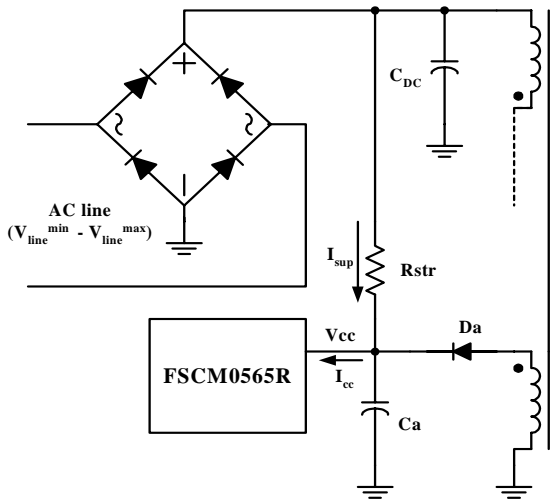
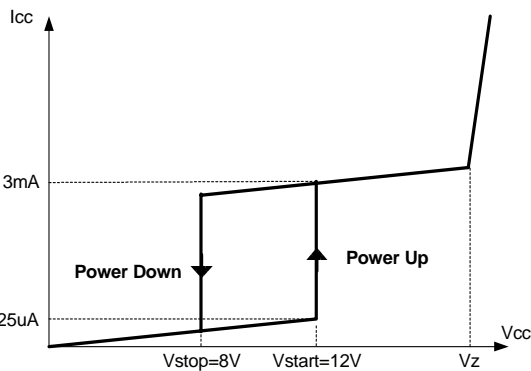

Figure 4. Startup circuit
Figure 5. Relation between operating supply current and Vcc voltage
1. Startup : Figure 4 shows the typical startup circuit and transformer auxiliary winding for FSCM0565R application. Before FSCM0565R begins switching, FSCM0565R consumes only startup current (typically 25uA) and the current supplied from the DC link supply current consumed by FPS (I_{cc}) and charges the external capacitor (C_a) that is connected to the Vcc pin. When Vcc reaches start voltage of 12V (V_{START}), FSCM0565R begins switching, and the current consumed by FSCM0565R increases to 3mA. Then, FSCM0565R continues its normal switching operation and the power required for this device is supplied from the transformer auxiliary winding, unless Vcc drops below the stop voltage of 8V (V_{STOP}). To guarantee the stable operation of the control IC, Vcc has under voltage lockout (UVLO) with 4V hysteresis. Figure 5 shows the relation between the current consumed by FPS (I_{cc}) and the supply voltage (Vcc).